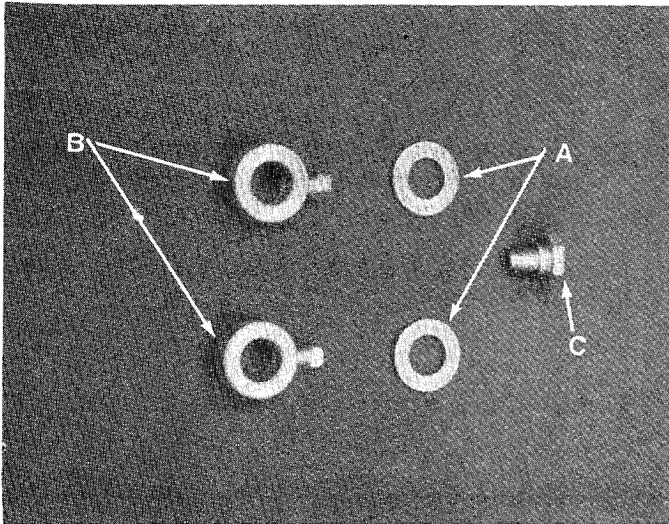

FIGURE 1
3. Place flat washers (A) on axle, then wheels and secure with collars and set screws (B). See figures 1 and 2.